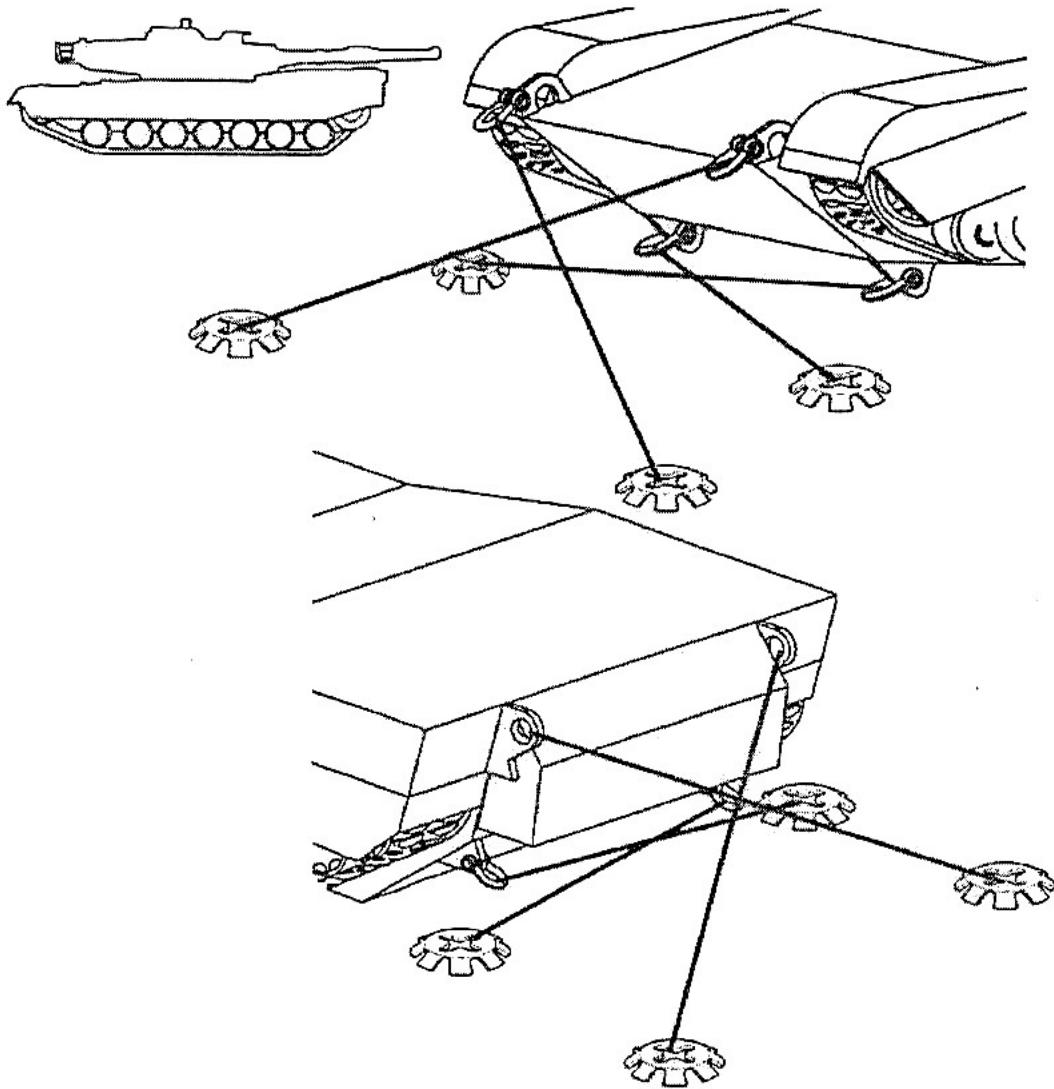

Figure 3-156
- b. Issue guidance that the number of lashings for tracked vehicles will depend on the weight, and the number of lashings could range eight or more (see Figure 3-156).